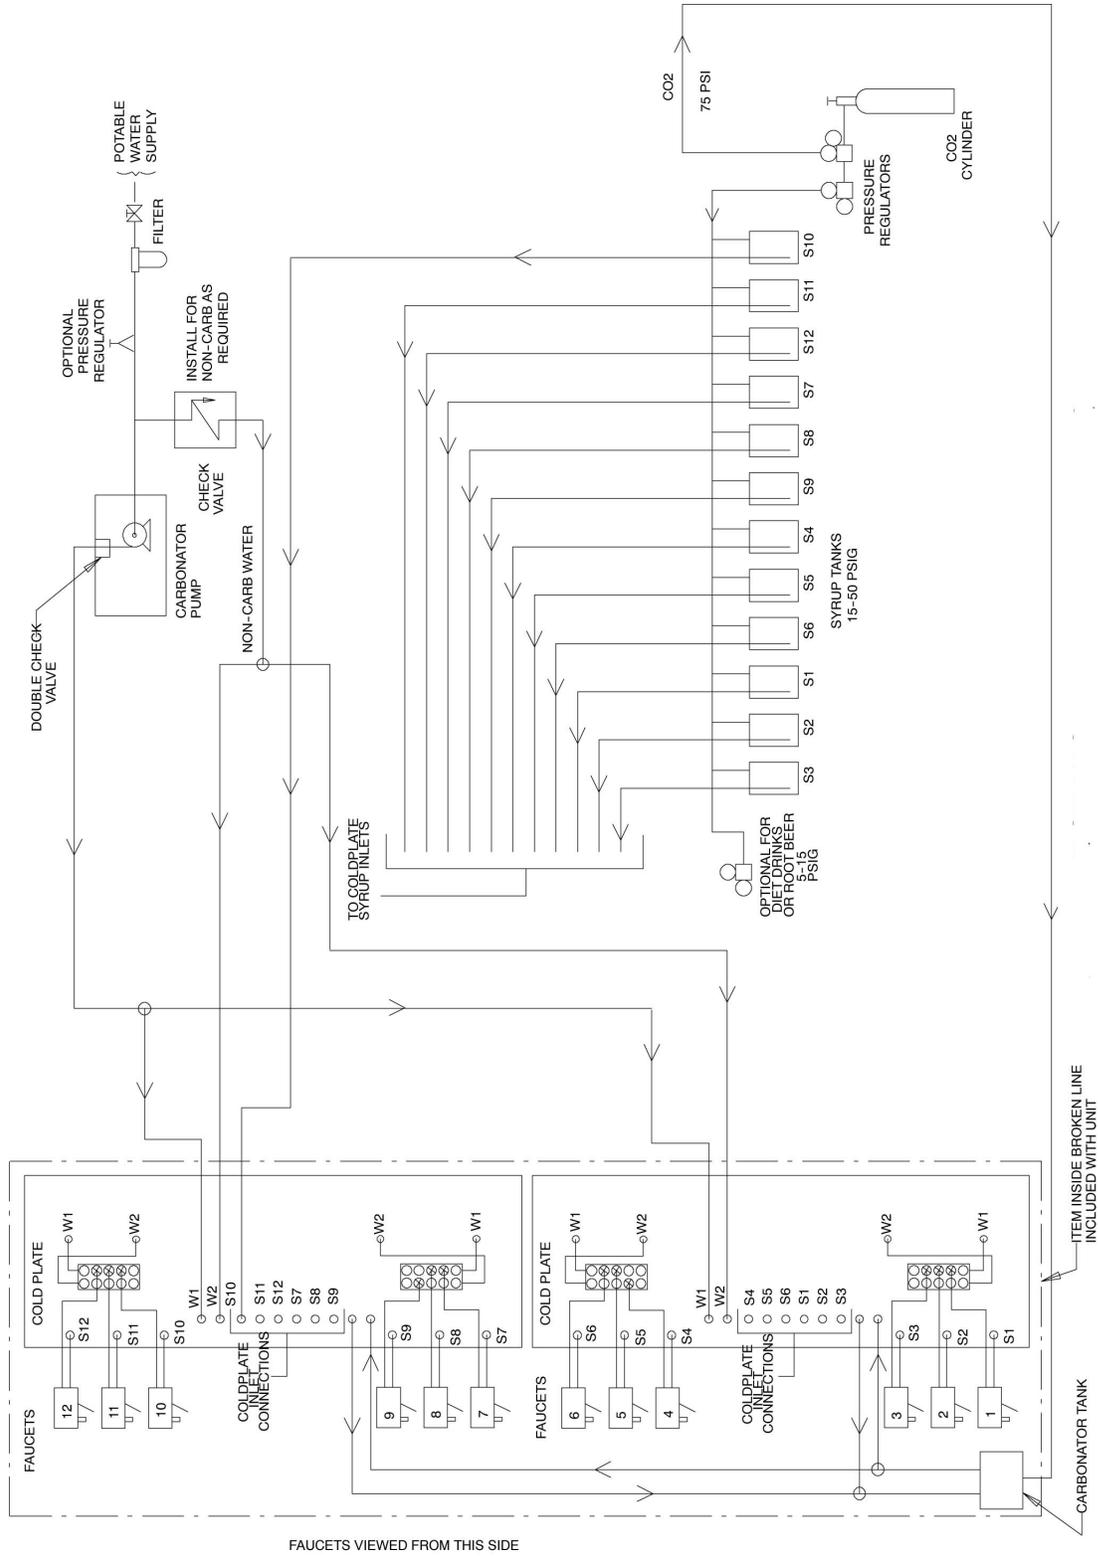

Figure 6. Flow Diagram (Twelve Flavor Unit)
6. Connect the beverage system product tubes as indicated in applicable Flow Diagram Figure 6. This work should be done by a qualified service person.
NOTE: See applicable Plumbing Diagram (see Figure 6) or Decal on the lower front panel of the unit for the location of syrup and water connections.